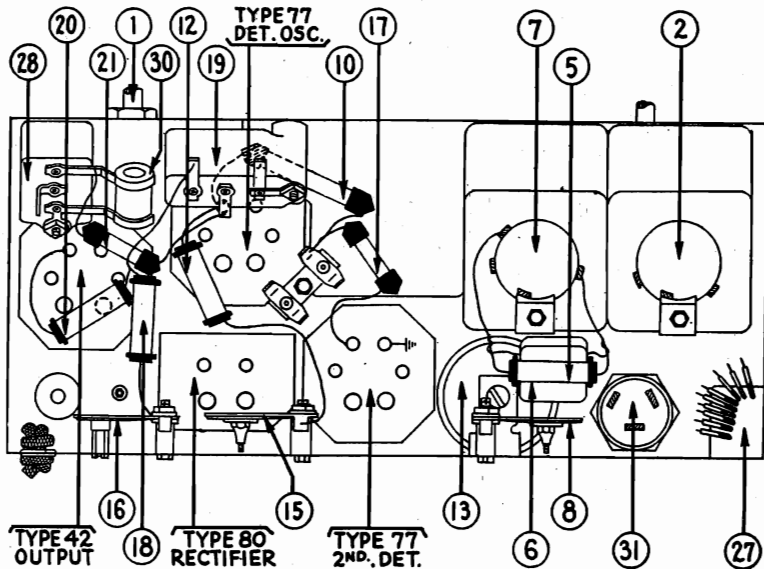

Fig. 4—Base View
*Does not show in Fig. 4.
(1)—I. F. (Intermediate Frequency)—Remove grid clip from cap on 6A7 tube and connect antenna lead from signal generator to cap of tube. Connect ground lead to ground post on set. Turn on set and signal generator; set wave switch of latter to 460 K. C. (the I. F. of Model 66) and dial of set at 540, wave band switch to left. Adjust each of the four I. F. compensating condensers (17), (19), (22) and (24) in turn so that maximum reading is obtained in the output meter. If the meter reading goes off scale, adjust the attenuator on the signal generator so as to get a lower reading. These I. F. condensers (visible in Fig. 4) are adjusted by inserting the
(2)—WAVE TRAP—Replace grid clip on cap of 6A7 tube and connect antenna lead from signal generator to antenna post on set. Set signal generator at 460 K. C. and adjust wave trap (1) so as to get MINIMUM reading in output meter.
(3)—ANT. and OSC. H. F.—These adjustments (7) and (11) are located on top of the tuning condenser assembly at right (facing front of set) and adjusted from above. The "ANT" (7) is nearest front of set. Set signal generator at 1700 and dial of set at 1700 and adjust these two condensers to get maximum output meter reading.
(4)—OSC. L. F.—This condenser (13) is located underneath chassis (see Fig. 4) and is reached from underneath. Set dial of set and signal generator switch at 600, and adjust for maximum reading.